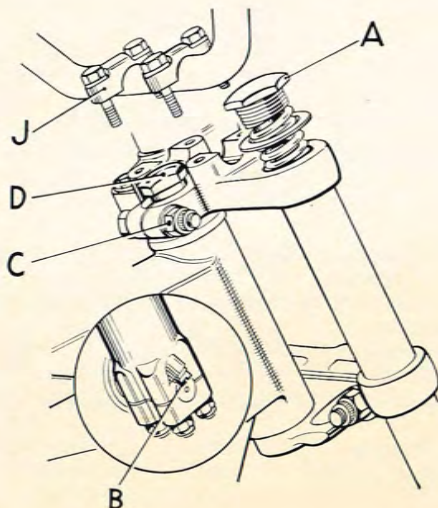

Fig. 23.
The only servicing which the front forks require is renewal of the oil at regular intervals (see "Routine Lubrication", page 23). First release the handlebar clamps (J) and lift the handlebars off the yoke (Fig. 23).
Unscrew the nuts (A) Fig. 23, and the drain plugs in the lower end of the fork sliding members as shown at (B). Allow all the oil to drain out, then standing astride the machine, apply the front brake and depress the forks a few times to drive out any oil remaining in the system.
Slacken the clamping nut (C) Fig. 23, then gently tighten down the cap nut (D) below the handlebars until only a trace of play is present. Hold the handlebars lightly and move them round slowly. The steering must be free, and the forks must rotate smoothly. If the movement is harsh it is a sign that the adjustment is too tight or that the bearings are damaged. When the adjustment is correct, tighten the clamping nut (C).